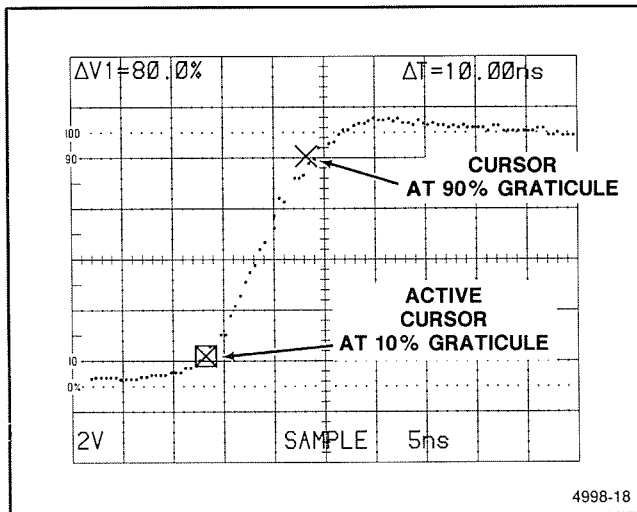

Figure 6-5. Rise time, cursor method.
- Push the SELECT C1/C2 button to select the other cursor, and use the CURSORS control to move the active cursor up the waveform's leading edge until the  $\Delta V$  readout is 80% (see Figure 6-5).